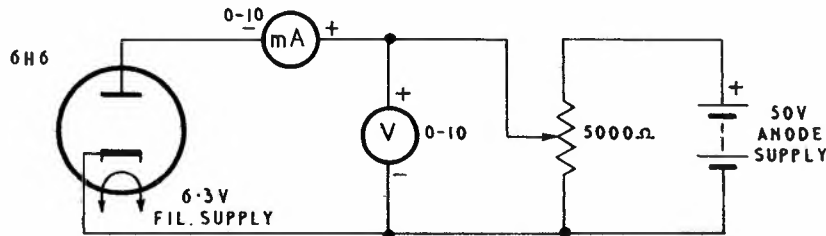

FIG. 1.
STEP 1. Connect the battery supplies, the voltmeter and the ammeter to the valve test board (Fig. 1).